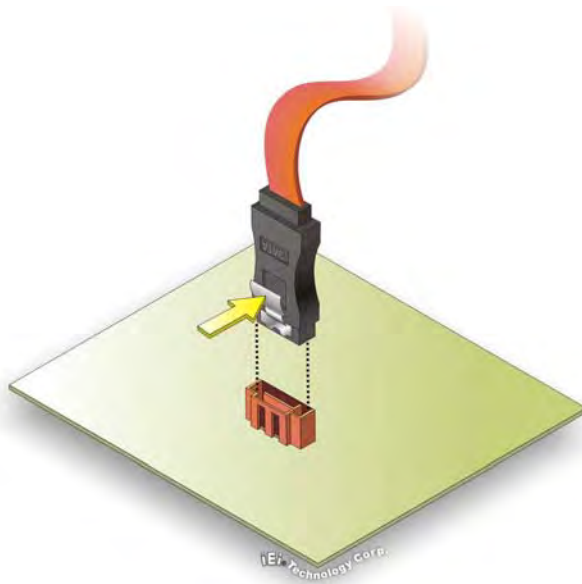

Figure 4-12: SATA Drive Cable Connection
Step 2: Insert the cable connector. Press the clip on the connector at the end of the SATA cable and insert the cable connector into the on-board SATA drive connector. See **Figure 4-12**.